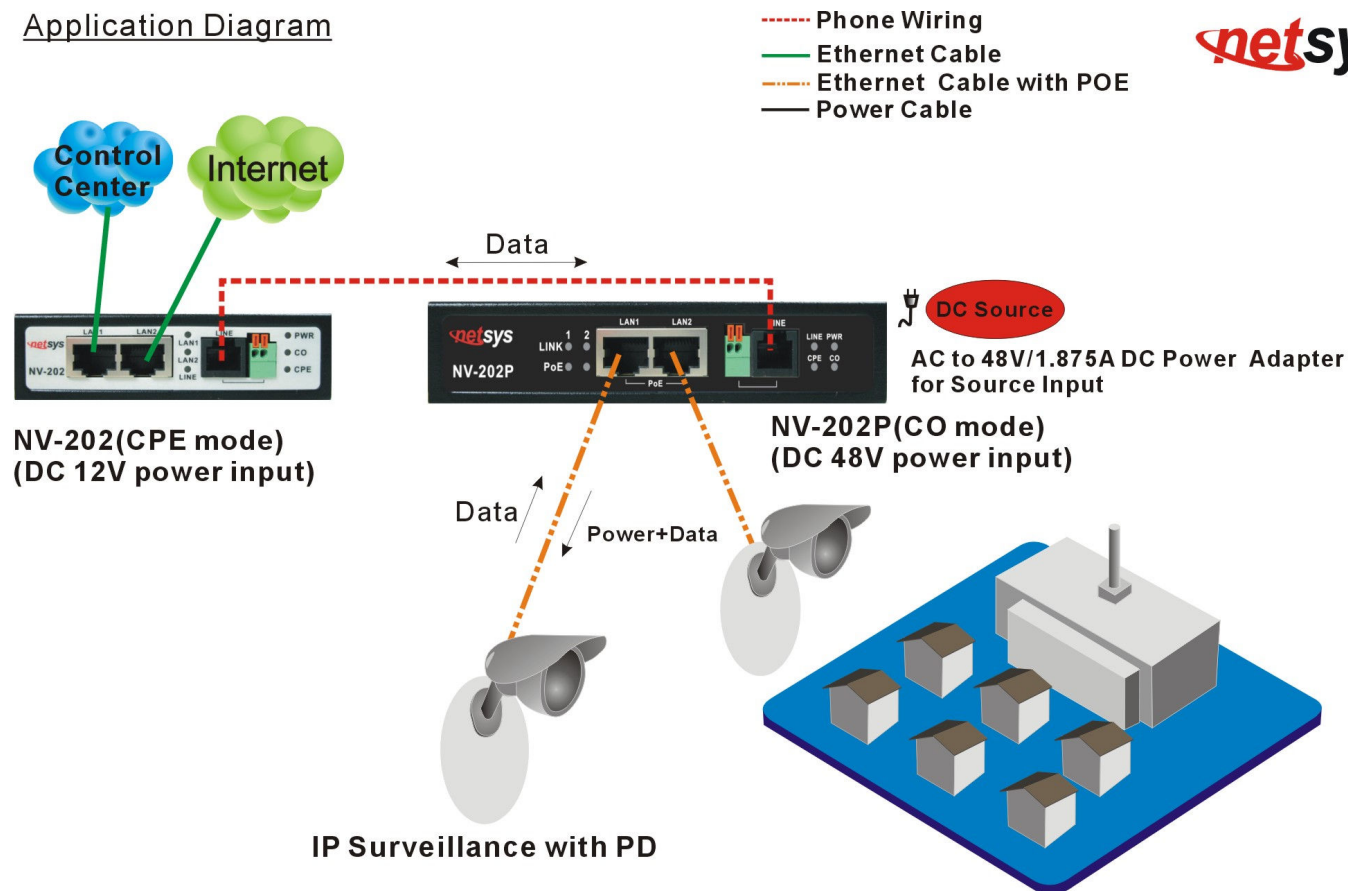

Figure 2.7 NV-202 / NV-202P point to point application diagram
2. If user need use over 1.5 km cable length and also need bigger bandwidth application, such as connect to ip camera. User can use NV-202P (CO mode) and NV-202 (CPE mode) to achieve the IP surveillance for long distance application. (Figure 2.7)